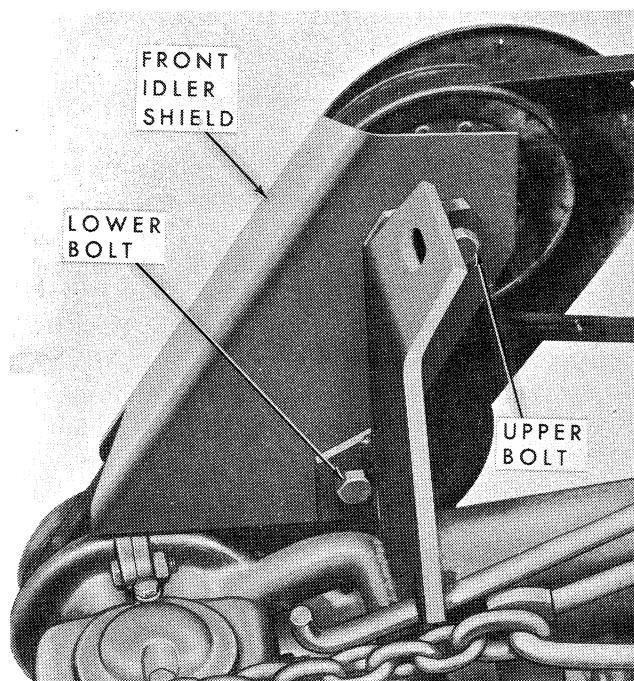

Figure 37
- a. Insert the 5/8" – 11 x 3-1/2" bolt, (provided in the bag of hardware) through the hole in the bracket, and upper hole of the front idler shield. See Figure 37.
- a. Insert the 5/8" – 11 x 3-1/2" bolt (provided in the bag of hardware) through the hole in the bracket, lower hole of the front idler shield. See Figure 37.